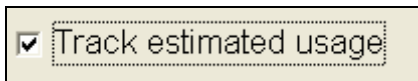

Figure 16.5.3B
Track Estimated Usage: This option is only available if you have **NO** flow meter assigned to this controller and you are **NOT** using (ET) or Budgets (Figure 16.5.3B).